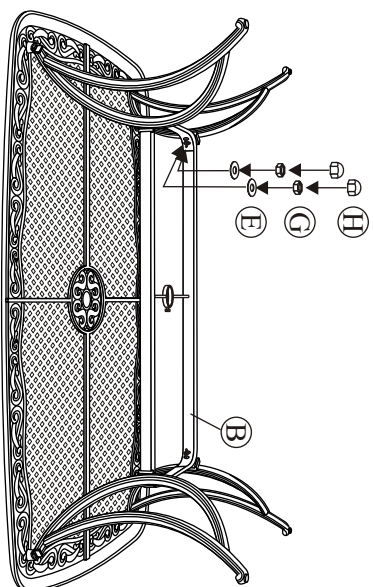

Fig. 2
2 **Critical Step: The "U" metal plates must be installed in the proper location.** Read this step and carefully examine. Insert the "U" metal plate, so that the "U" bar and rocker plate are between both sides of the "U" metal plate. Make sure that the holes in the "U" metal plate are completely aligned with the holes in the "U" bar as shown in **Figure 2**. Guide the bolts through the holes on the top side of the "U" metal plate, through the holes in the "U" bar portion of the chair, through the holes in the rocker plate and then, most importantly, through the holes in the bottom side of the "U" metal plate. It is very important that the holes in the bottom portion of the "U" metal plate be placed directly beneath the holes in the rocker plate. Add a spring washer and a nut to each bolt as shown in **Figure 2**. **Hand tighten nuts 3-4 revolutions only.** Repeat the same procedure on the other side.
Step 3: Attach a leg to the leg connector bracket by carefully guiding the bolts already in place on the table legs (each leg has two bolts) through the holes in the leg connector bracket. Add a washer and a nut to the end of each bolt as shown in Fig. 2. **Hand tighten only. Do not tighten completely.** Repeat on the other three legs.
- 2 Attach a leg to the leg connector bracket by carefully guiding the bolts already in place on the table legs (each leg has two bolts) through the holes in the leg connector bracket. Add a washer and a nut to the end of each bolt as shown in Fig. 2. **Hand tighten only.** Repeat on the other three legs.